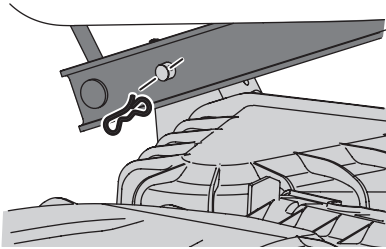

Figure 41
11. Looking at the deck from the left side of the tractor, locate the bow-tie pin on the rear left side of the deck (Figure 41).
12. Remove the pin and slide the deck pin out of the deck lift arm (Figure 41).